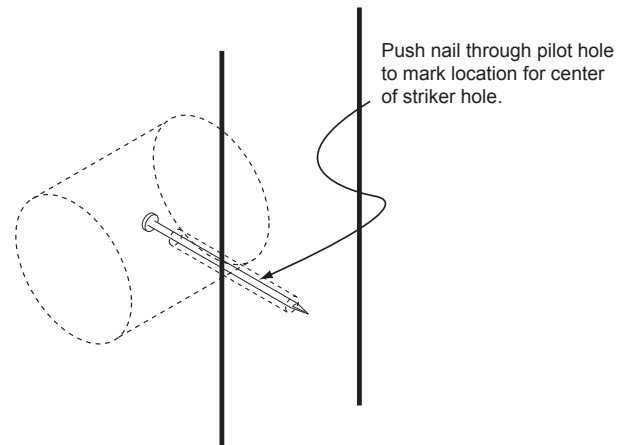

Figure 6
- Close the door and push a 2 to 2 $\frac{1}{4}$ " long nail through the deadbolt pilot hole, from inside the cylinder lock hole, to mark the location for the striker plate hole (Figure 6).